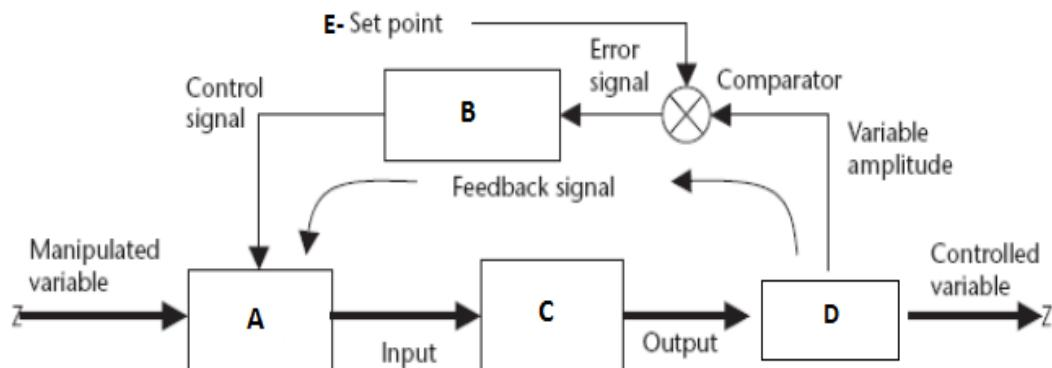

Figure 1(b)/ Rajah 1(b)
- CLO1 (b) Figure 1 (b) shows a closed loop control system. Explain A, B, C and D elements of the system.